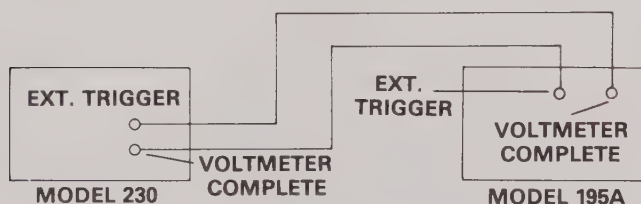

Figure 2-5. External Trigger Connections
1. Connect the Model 195A to the Model 230 as shown in Figure 2-5. Use suitable shielded cables with BNC connectors. The Model 195A VOLTMEETER COMPLETE OUTPUT should be connected to the Model 230 EXTERNAL TRIGGER INPUT. The Model 195A EXTERNAL TRIGGER INPUT should be connected to the Model 230 EXTERNAL TRIGGER OUTPUT.